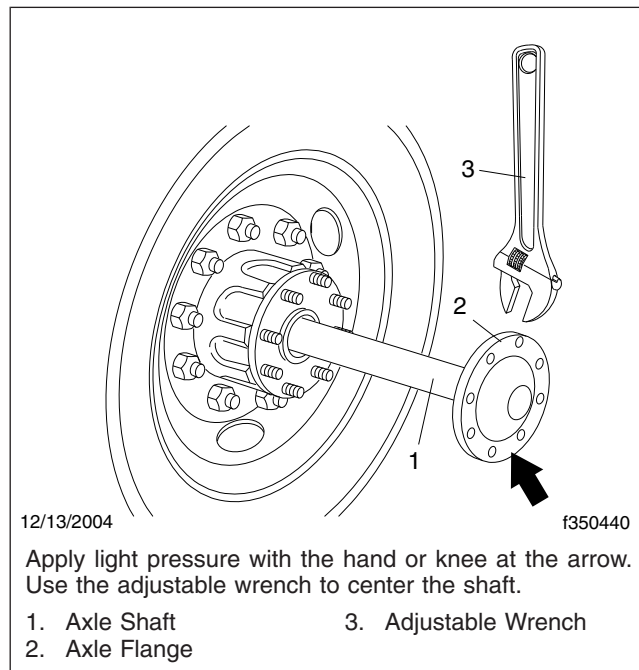

Fig. 6, Installing the Axle Shaft
18.2 Slide the axle shaft into the axle. See **Fig. 6**.